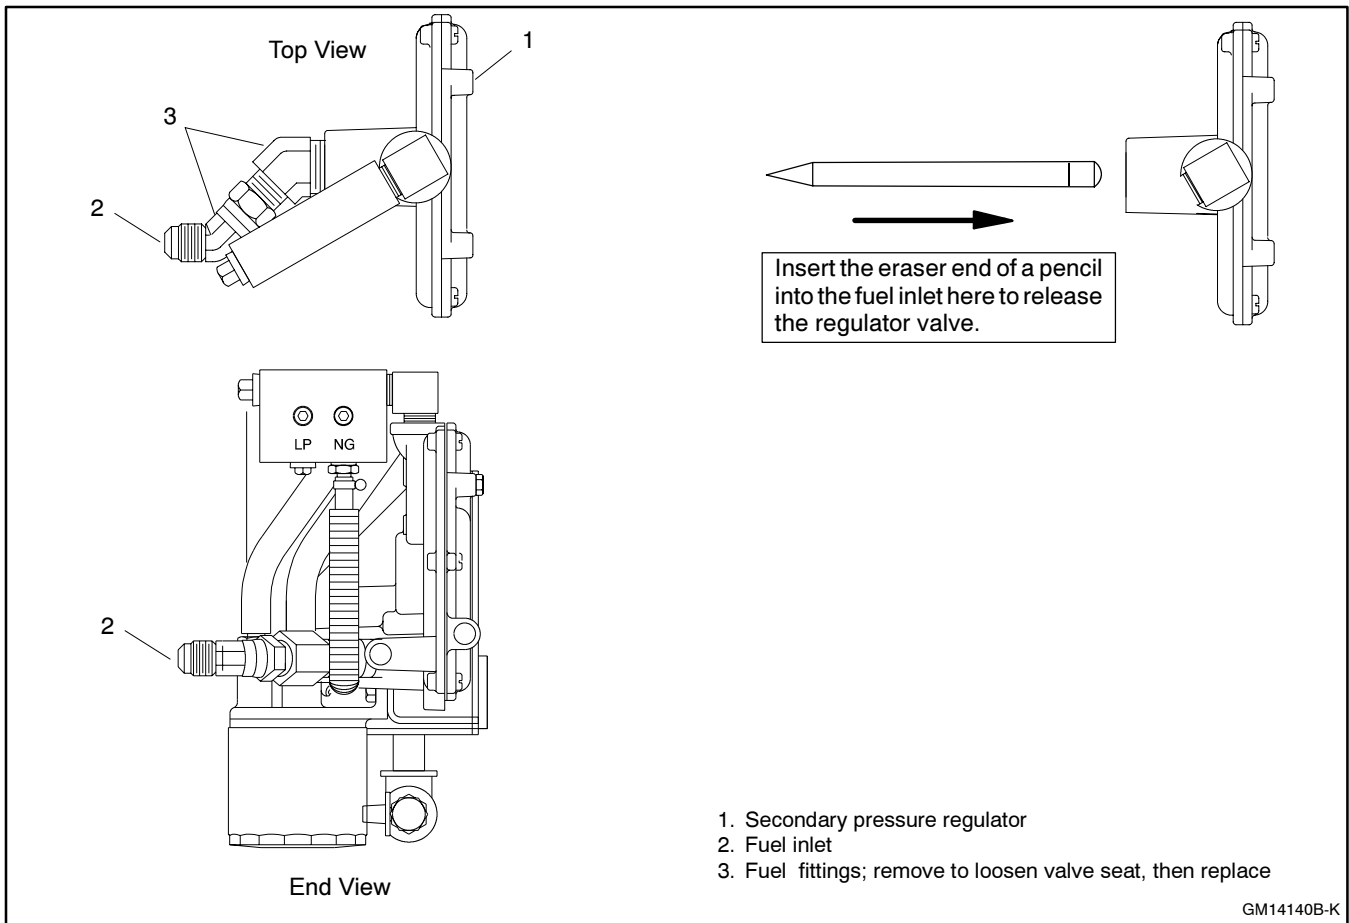

Figure 1 Secondary Fuel Regulator
6. Disconnect the fuel line at the secondary regulator's fuel inlet, item 2 in Figure 1.
7. Remove two fittings from the secondary regulator's fuel inlet. See item 3 in Figure 1.
8. Insert the eraser end of a pencil into the fuel inlet of the secondary regulator until the eraser contacts the fuel valve. See Figure 1.